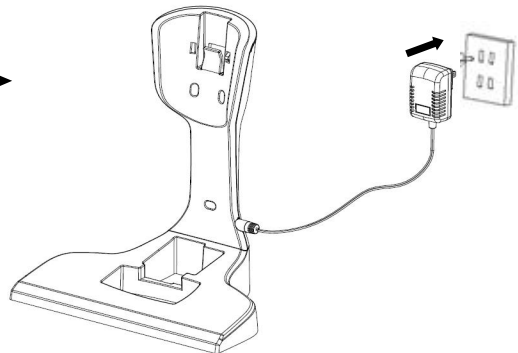

Fig. 5-1b
5.2 Insert the large end of adaptor into power outlet and then connect the power source well (see Fig. 5-1b)